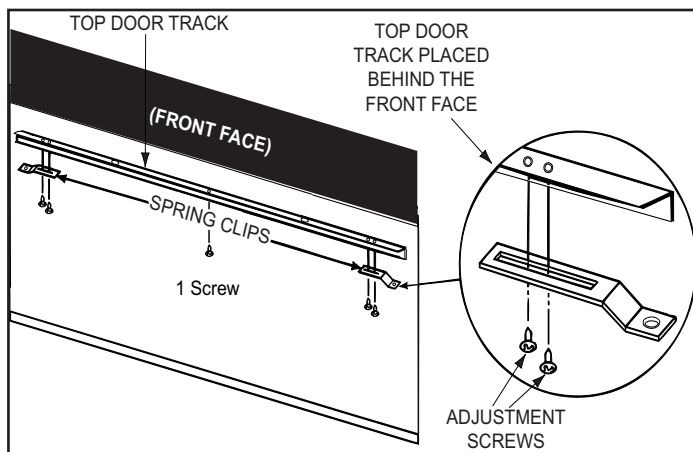

Figure 3 - Spring Clip Placement
- Remove the two screws on each end of the top front face for the top door track. See Figure 3.
- On each end of the top door track, replace the two screws removed in Step 2, adding a spring clip to each end of the door track. See Figure 3.